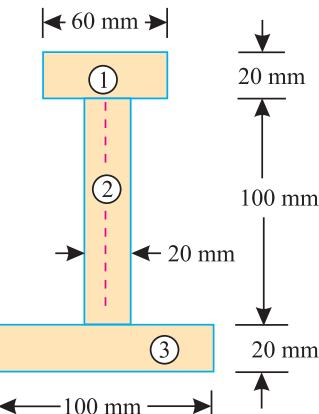

Fig. 7.15.
**Example 7.11.** An I-section is made up of three rectangles as shown in Fig. 7.15. Find the moment of inertia of the section about the horizontal axis passing through the centre of gravity of the section.
Split up the whole section into three rectangles 1, 2 and 3 as shown in Fig. 7.15. Let bottom face of the bottom flange be the axis of reference.